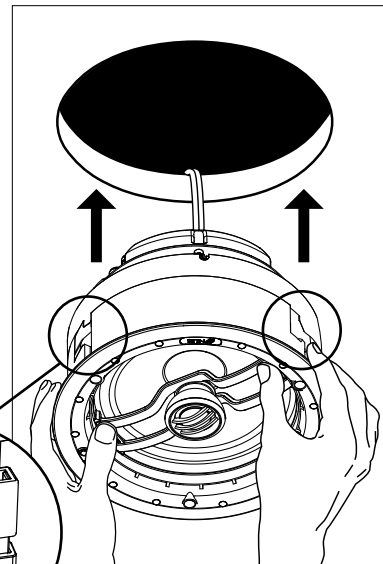

Figure 4. Installing a DS loudspeaker.
9. Once the speaker wires are connected, carefully slide the loudspeaker into the opening hole (**Figure 4**). While holding the speaker in place, tighten the mounting screws to secure the speaker to the drywall. We recommend using a motorized screwdriver. Be careful not to over tighten. The DS loudspeakers feature spring loaded mounting clamps that allow the speaker to remain flush with the ceiling, even if the drywall shifts or expands.